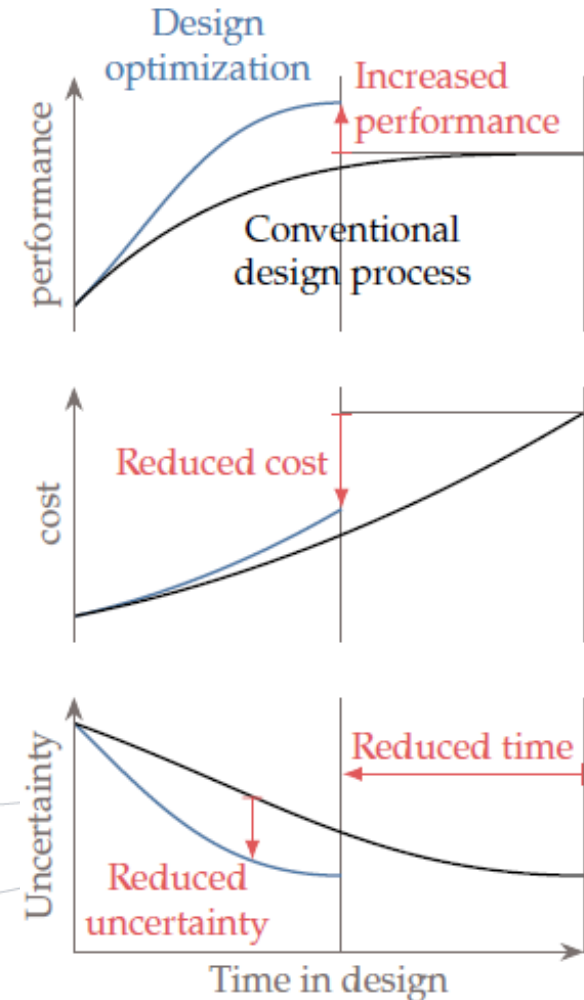

Figure 1.04 Advantages of design optimization over classical design process.
- Several advantages of design optimization arise, as shown in Fig. 1.04, which shows the notional variations of system performance, cost, and uncertainty as a function of time in design.